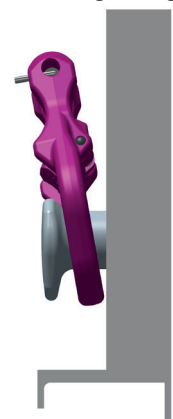

Fig. 6: Alignment of IMEG-10, IMEG 13 with diagonal tension
- The inside contour is designed to avoid unintentional unhooking of the skip container single suspension link for skip containers according to DIN 30720-1 and DIN 30720-2. The skip container single suspension link must be assembled and locked on the skip container lugs according to Fig. 6 to provide securing.
The skip container single suspension link must be able to be aligned in the direction of tension with diagonal tension (Fig. 6)